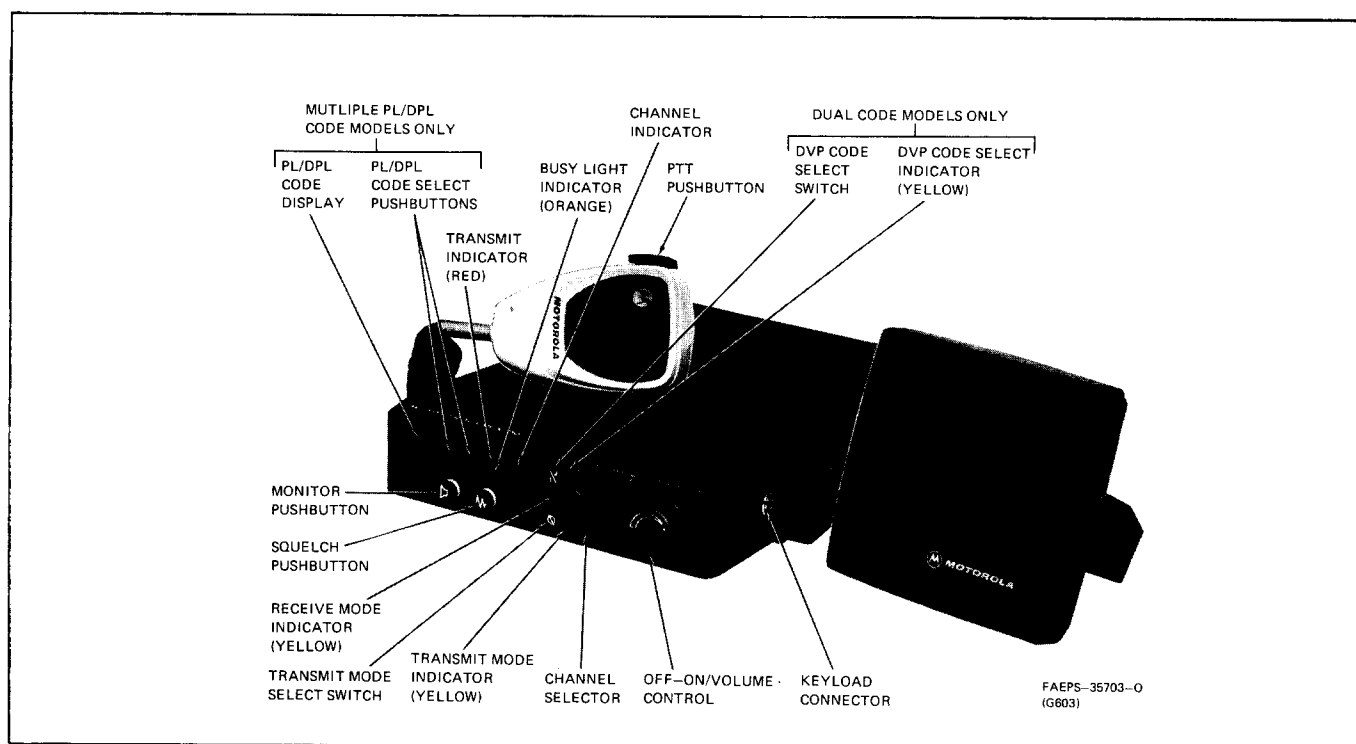

Figure 1. Front-Mount Radio Controls and Indicators (Typical)
Figures 1, 2, and 3 show the various controls that are available on the *DVP MCX100* radio sets. Your particular radio may differ, depending on the model and options that have been ordered.
Step 2. Depress (push in) the Squelch  and Monitor  pushbuttons, depending on the model used (see Figures 1, 2, 3).